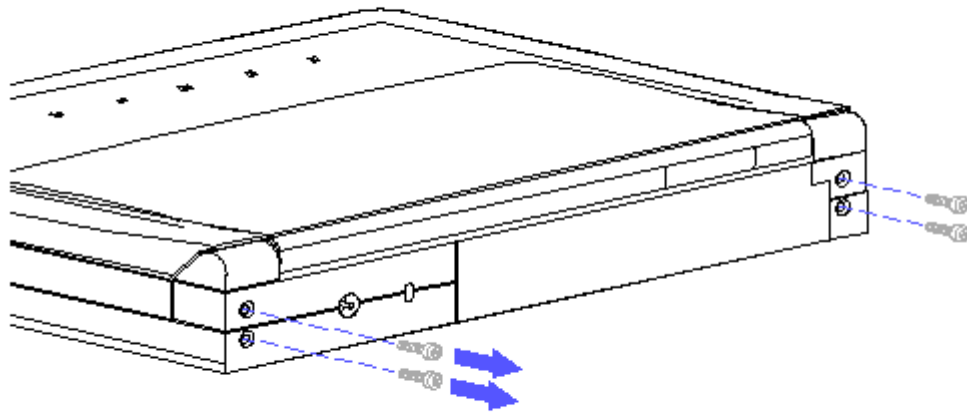

Figure 2-14. Removing the Four Screws
5. Using a Torx T-8 screwdriver, remove the 4 screws from the display panel assembly (Figure 2-14).